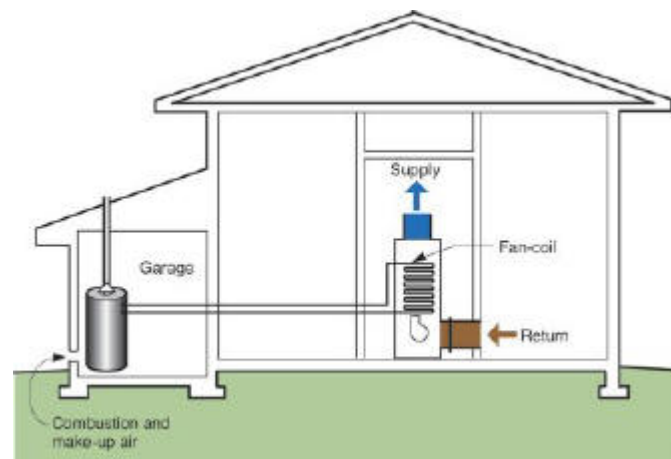

Figure 2
- **Heating** – Our recommendation for the use of combination space/domestic water heating systems (“Combo” units) comes heavily qualified to high performance production home builders. See the BSC technical resource “Combo Space/Water Heating Systems – ‘Duo Diligence’.” See *Figure 2*.